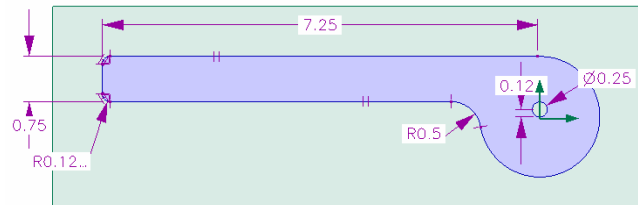

Figure 30. Detail to draw handle from circle.
65. It is easier to draw circles then vertical and horizontal lines from the origin as shown in figure 30 then construct the handle.
66. Draw the profile of the cam lever according to the dimensions shown in figure 30 and 31. Be careful to offset the center hole by 1/8" otherwise the cam will not function properly.